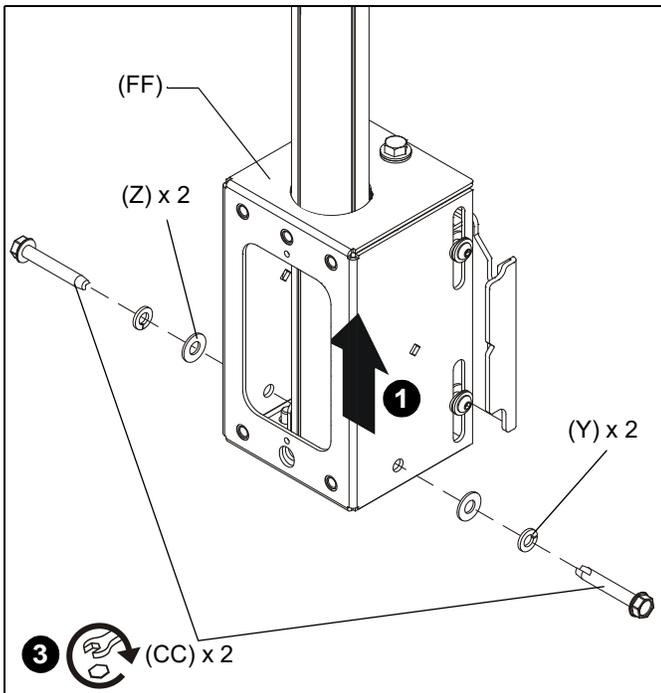

Figure 5
1. Slide array head (FF) up from below onto installed column (not included). (See Figure 5)
2. Line up holes in sides of array head (FF) with holes in column.
3. Install two 5/16" x 2" self-tapping screws (CC) through two 5/16" split washers (Y), two 5/16" flat washers (Z), sides of array head (FF), and into installed column. (See Figure 5)